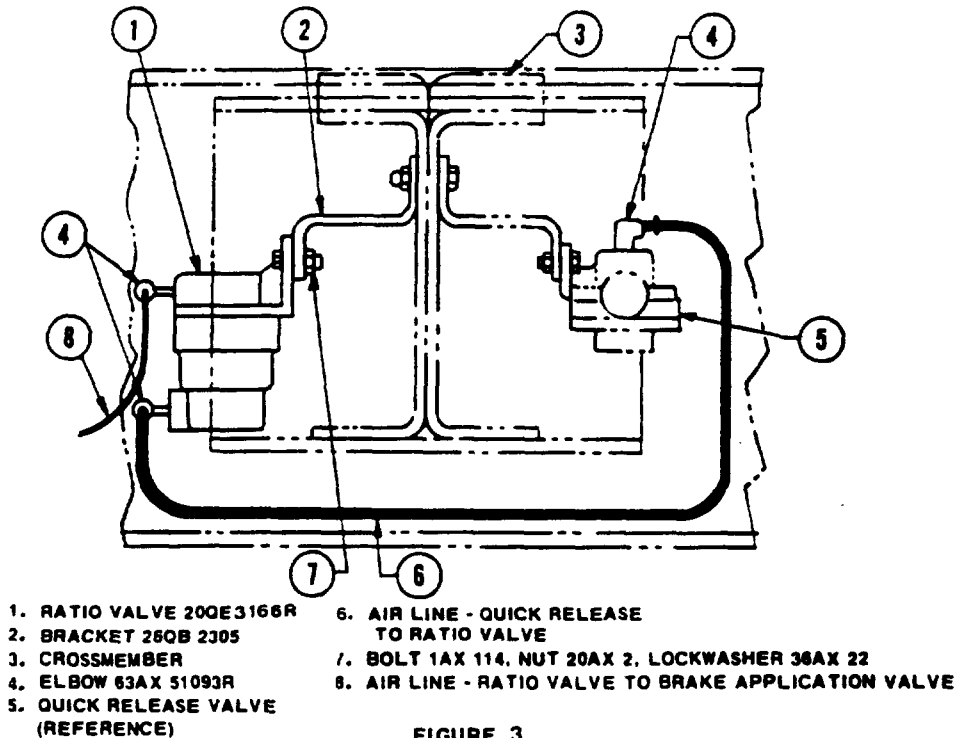

FIGURE 3
- a. Install ratio valve bracket on chassis. Use quick release valve mounting holes for R, U (Figure 2) and RD, DM (Figure 3). Use alcohol evaporator mounting holes for F models (Figure 4). Mount ratio valve on bracket (except MB). A separate bracket is not required for the MB.